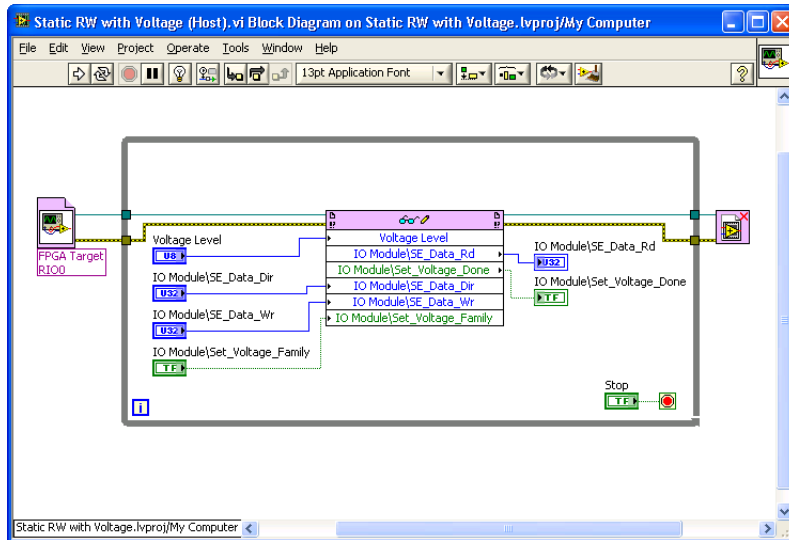

Figure 15. Data RW (Host).vi Block Diagram
9. Add a While Loop to the block diagram, as shown in Figure 15.
21. Right-click the stop condition of the While Loop and add a control. Label this control **Stop**. Your block diagram should now resemble the block diagram in Figure 15.